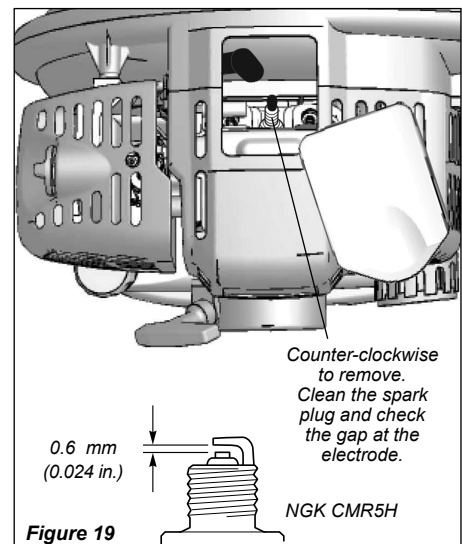

Figure 19
1. Use the spark plug wrench to remove the spark plug. (See Figure 19)